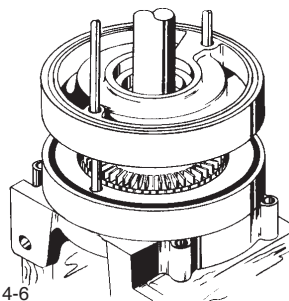

Figure 4-6
7. Slide a right hand channel ring (#9) onto the guide rods with the water channel facing downward, toward the impeller.(refer to figure 4-6) The small outlet opening should be in the "one o'clock" position. This completes one stage; a stage